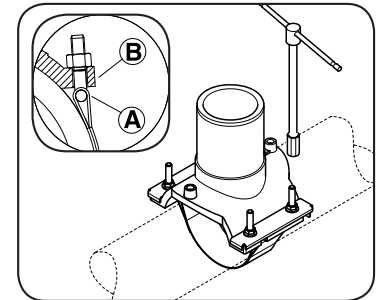

FIG.2
- 4 Fasten the saddle on the pipe using the FLEXIBLE BELT: use a wrench to tighten the four screw nuts until the U-bolt A and the top part of saddle B come into tight contact (see fig.2).